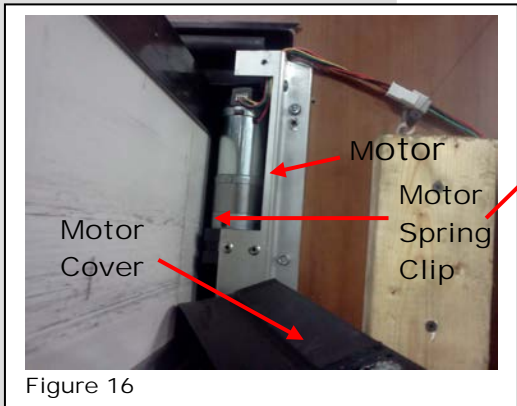

Figure 16
3. Pull down the bulb seal and remove the motor cover (**FIGURE 16**). The motor cover may stick to the bulb seal.